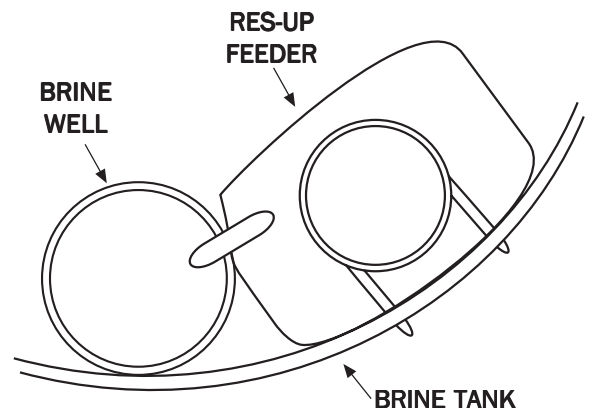

Figure 1
2. Attach bracket to Res-Up Feeder (plastic container) and position in brine tank next to brine well as shown in **figure 1 on the front of this sheet.**